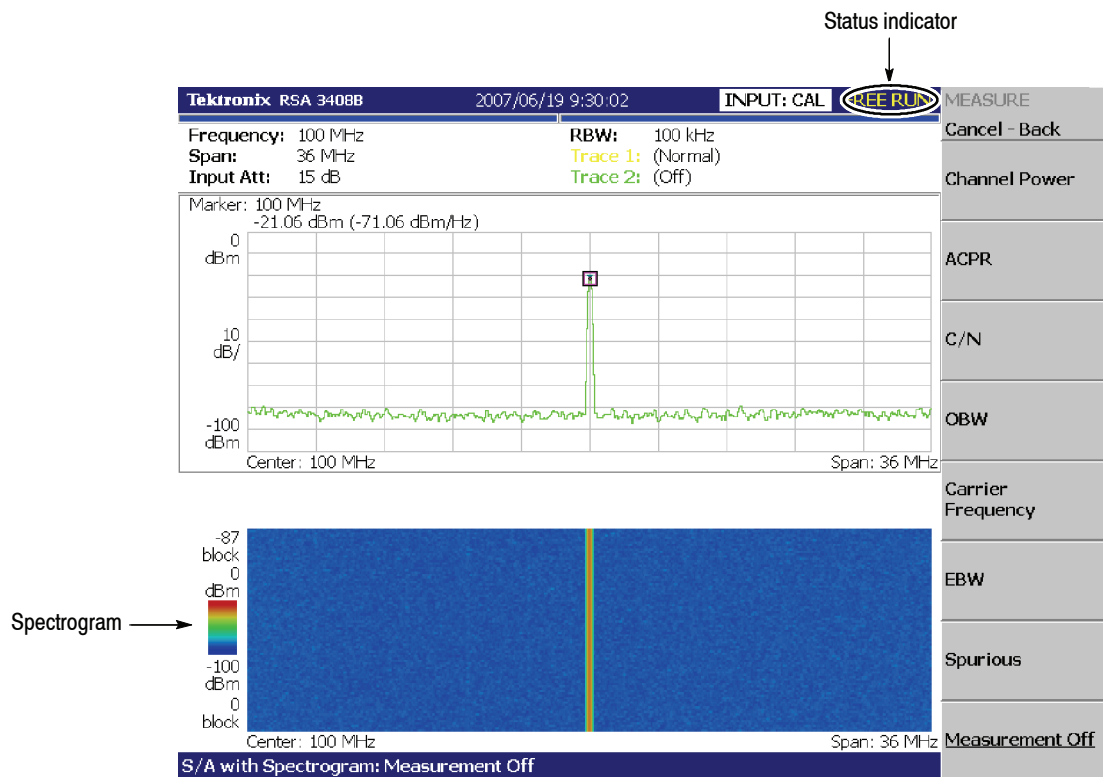

Figure 1-18: Spectrogram display
- b. Press the **S/A with Spectrogram** side key. Check that the spectrogram is displayed on the lower side of the screen (see Figure 1-18).